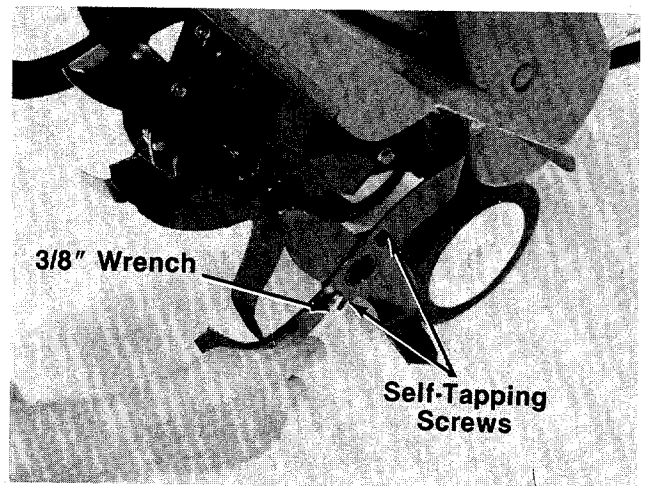
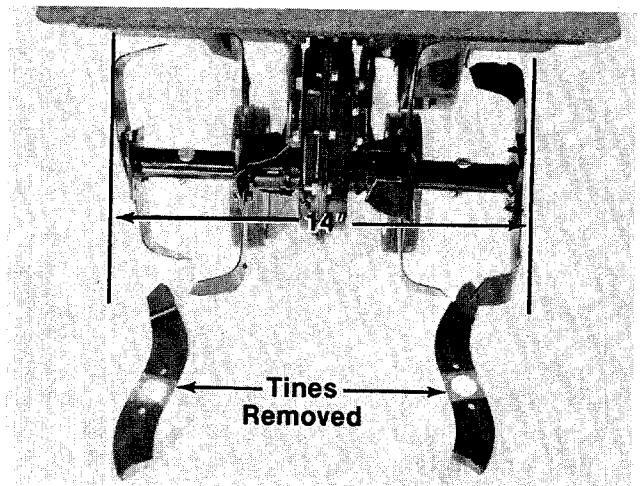

FIGURE 16.
FIGURE 17.
2. A narrower width (14 inches) can be obtained by removing both outer tines. Use a 3/8" wrench to remove the two self-tapping screws on the outside of the tines. See figure 16. Replace the first tine removed as shown in figure 17.